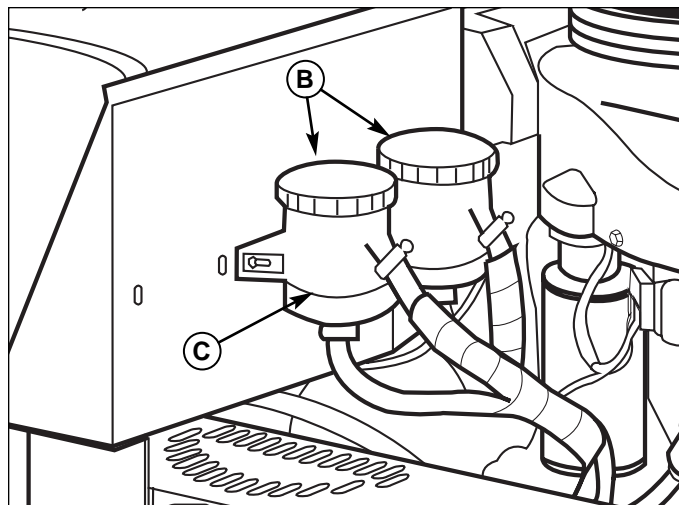

Figure 30. Oil Reservoirs
- Keep oil level in the reservoirs (A, Figure 30) at the "FULL" line (B, Figure 30). Extra oil in the reservoir will not benefit the machine.
3. Run engine for 15 minutes. Watch the oil level in the reservoirs. Add oil to the "FULL" line (B, Figure 30) as necessary.